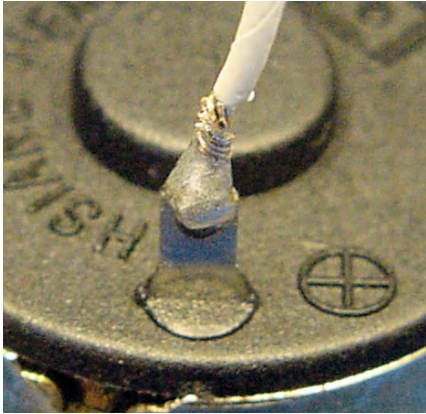

Figure 22-6. Wire and terminal soldered together
13. You should be pleasantly rewarded with a shiny, strong, rounded, encompassing solder joint (see Figure 22-6).